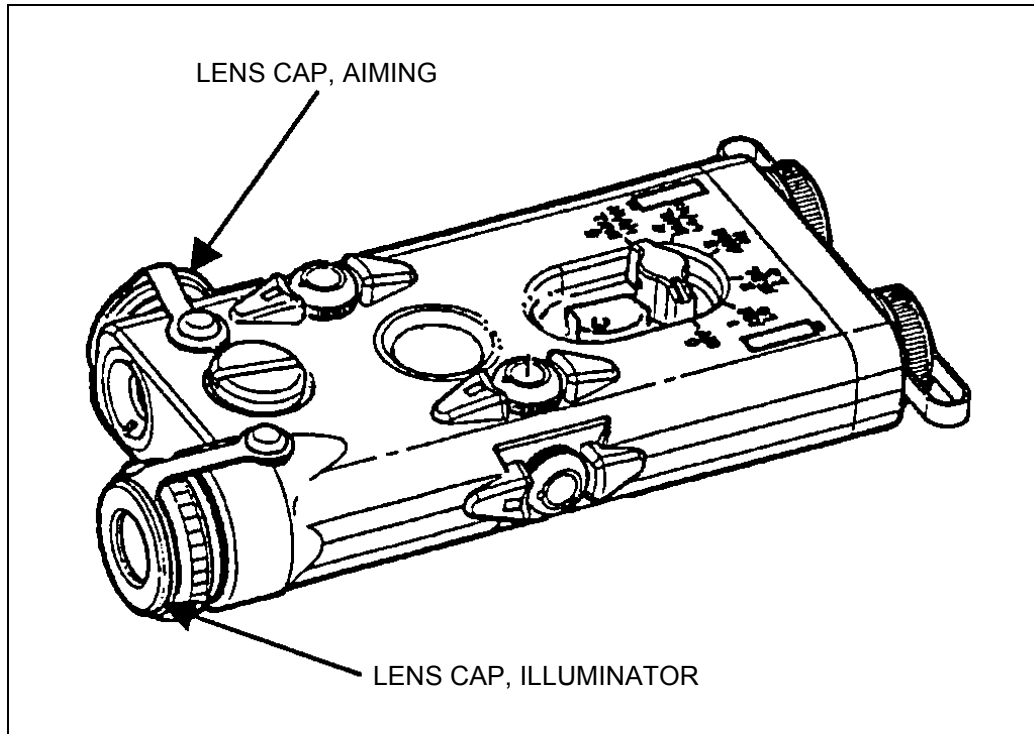

Figure G-7. Installing the lens caps.
(7) **Lens Caps.** Several lens caps can be used with the AN/PEQ-2A for different purposes (Figure G-7).